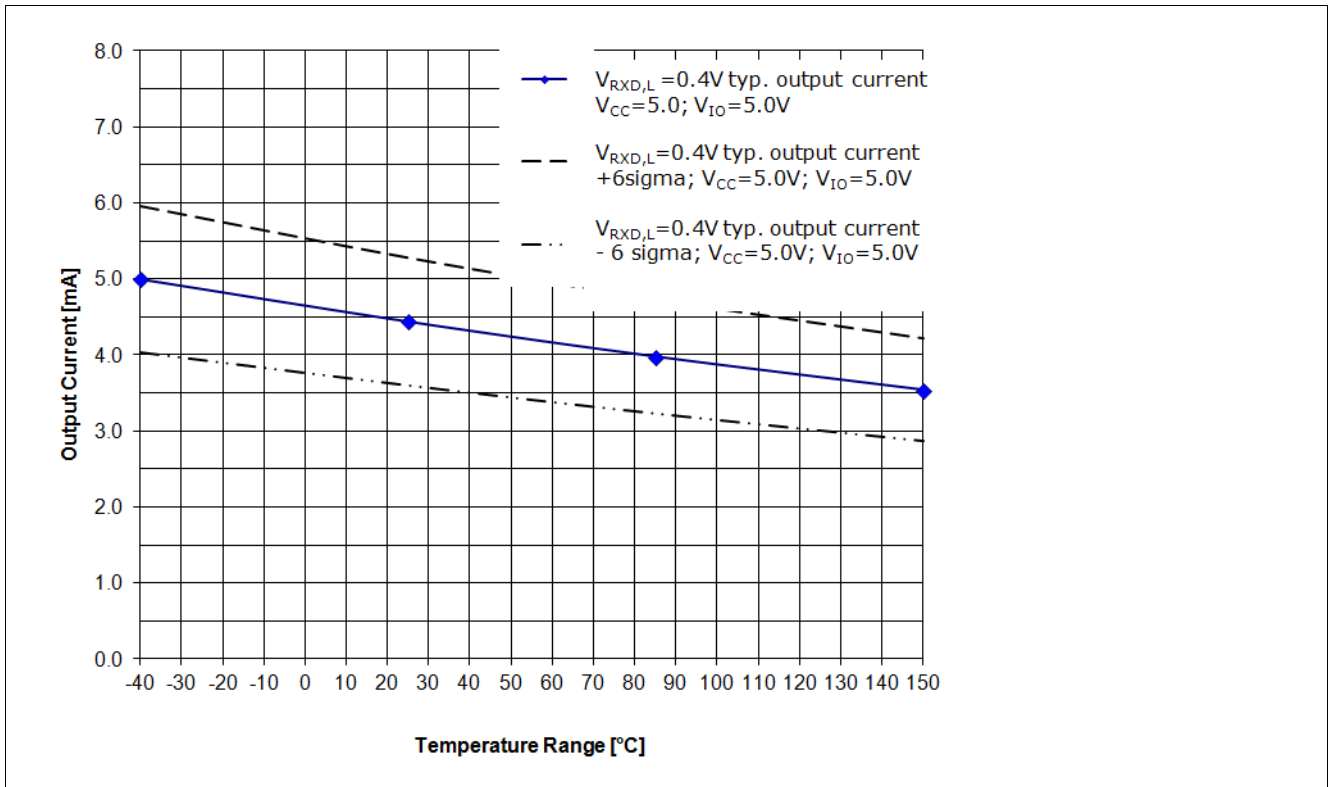

Figure 13 RxD Output driver capability for a logical “Low” signal  $V_{RxD,H}=0.4\text{ V}$ ,  $V_{CC}=5.0\text{ V}$ ,  $V_{IO}=5.0\text{ V}^1)$
The diagram in Figure 13 and the diagram in Figure 14 show the current capability of the RxD output pin depended on the chip temperature  $T_J$ . Figure 13 shows the current capability of the RxD output pin at a  $V_{IO}$  power supply of 5.0 V and Figure 14 shows the current capability of the RxD output pin at a  $V_{IO}$  power supply of 3.3 V.
- The curve “ $V_{RxD,L} = 0.4$  V; **typ. output current**;  $V_{CC} = 5.0$  V;  $V_{IO} = 5.0$  V;” displays the typical output current at the RxD output pin of the TLE8250GVIO (see Figure 13).
- The curve “ $V_{\text{RxD,H}} = 0.4 \text{ V}$ ; **typ. output current + 6 sigma**;  $V_{\text{CC}} = 5.0 \text{ V}$ ;  $V_{\text{IO}} = 5.0 \text{ V}$ ,” displays the expected maximum value of the output current at the RxD output pin (see Figure 13).
- The curve “ $V_{\text{RxD,H}} = 0.4 \text{ V}$ ; **typ. output current - 6 sigma**;  $V_{\text{CC}} = 5.0 \text{ V}$ ;  $V_{\text{IO}} = 5.0 \text{ V}$ ,” displays the expected minimum value of the output current at the RxD output pin (see Figure 13).